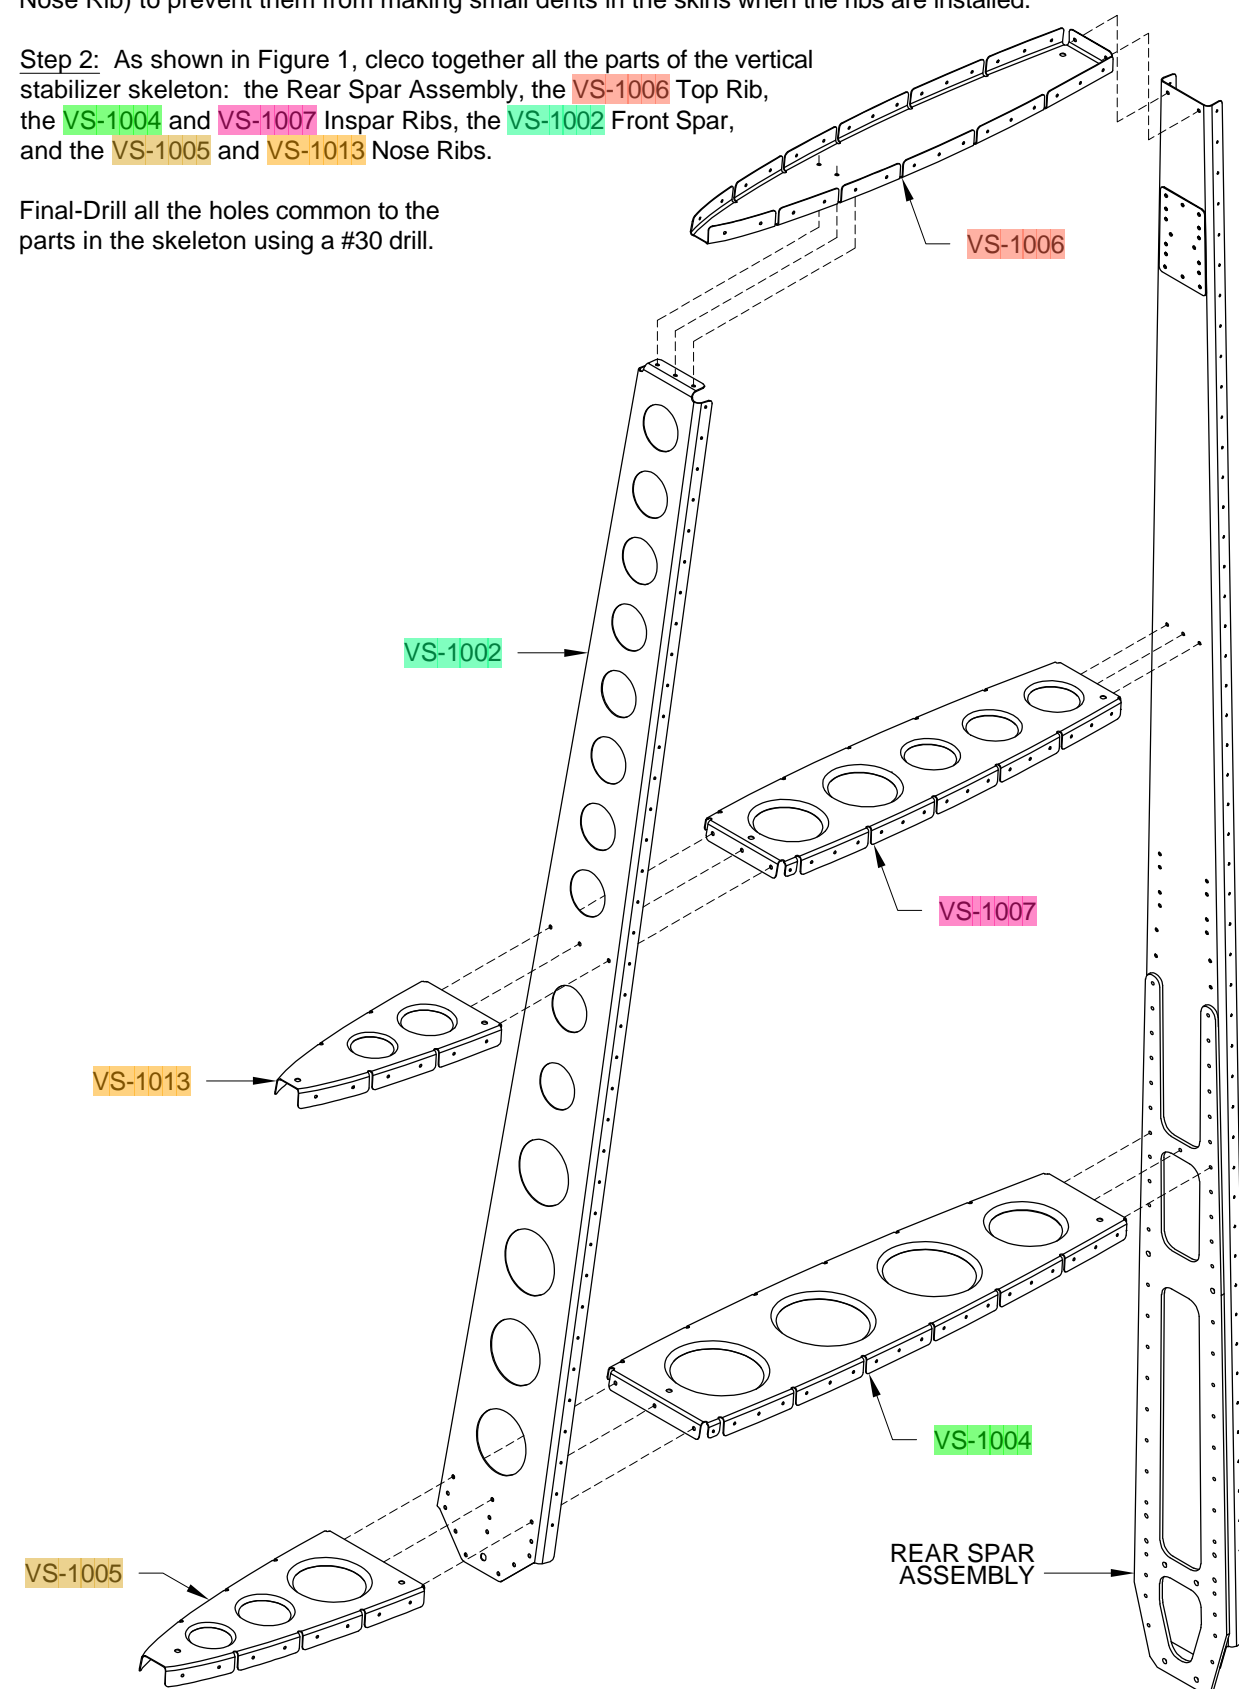

FIGURE 1: SKELETON ASSEMBLY
Step 5: Empennage fairing screw holes are indicated on Page 6-6, Figure 1, along the bottom edge of the depicted skin. Mark the corresponding holes in the VS-1001 Vertical Stab Skin, and in the flanges of the VS-1005 Bottom Nose Rib, the VS-1004 Bottom Inspar Rib, and the VS-1003 Rear Spar.
Step 6: Dimple all the holes of the VS-1001 Vertical Stab Skin except for the following: the eight vertical stab tip fairing attachment holes at the top of the skin (see Page 6-6, Figure 1) and the holes just marked in Step 5. Depending on the vintage of your "C" frame tool, you may not be able to reach all of the holes to dimple. The unreachable holes can be dimpled with a pop rivet dimple die set available from tool suppliers.